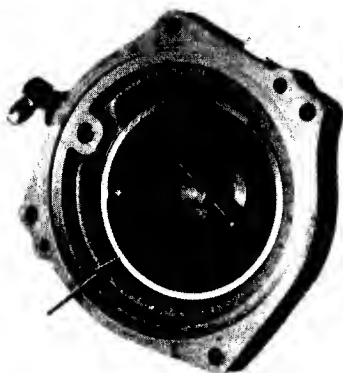

FIG. 4.63-CHECK MOTOR BALL PISTON RACE
14. Inspect motor ball-piston race, Fig. 4.63, in cast iron body for possible damage and replace if necessary using suitable puller and press.